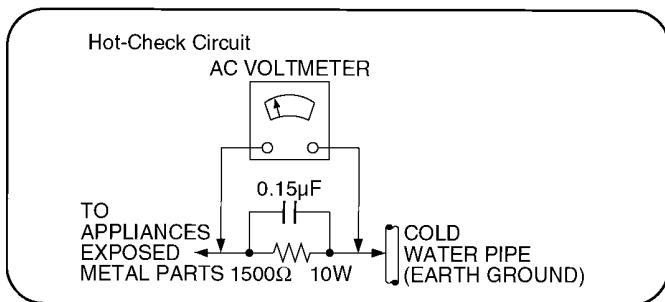

Figure 1
1.1.2. Leakage current hot check (See Figure 1 .)
2. Connect a $1.5k\Omega$, 10 watts resistor, in parallel with a $0.15\mu F$ capacitors, between each exposed metallic part on the set and a good earth ground such as a water pipe, as shown in Figure 1 .